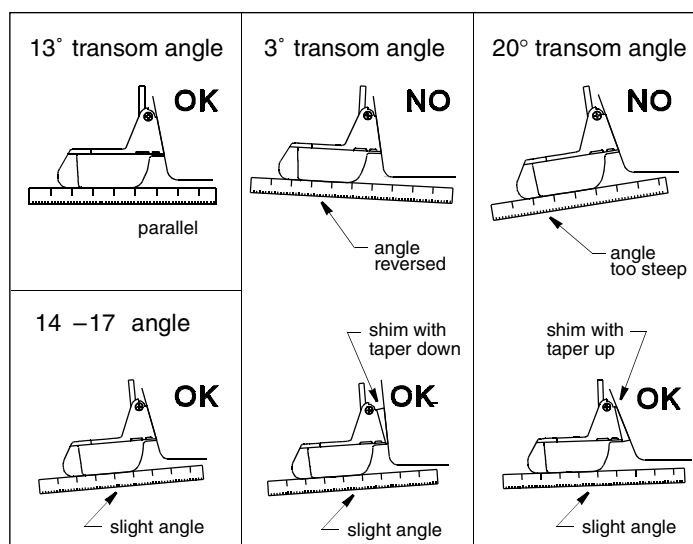

Figure 2-9: Transducer Angle Adjustment
1. Using a straight edge, sight the underside of the transducer relative to the underside of the hull (see *Figure 2-9*). The stern of the transducer should be 1–3 mm (1/16–1/8") below the bow of the transducer or parallel to the bottom of the hull.